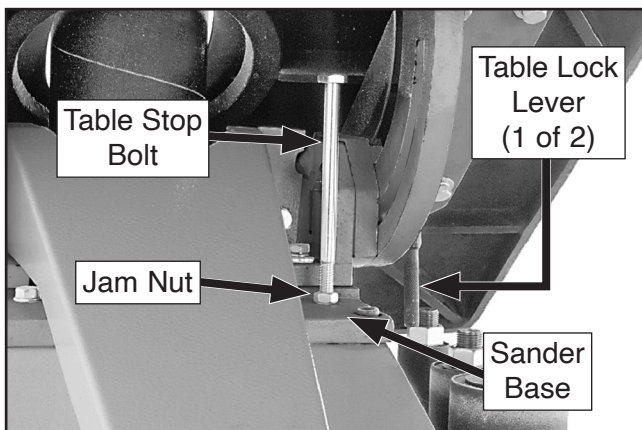

Figure 14. Table stop bolt installed.
2. Loosen both table lock levers (see **Figure 14**) and tilt table to 45°, then tighten levers.
3. Thread $\frac{3}{8}$ "-16 hex nut (jam nut) onto $\frac{3}{8}$ "-16 x 6 $\frac{1}{2}$ " hex bolt (stop bolt), then thread bolt into sander base, as shown in **Figure 14**.